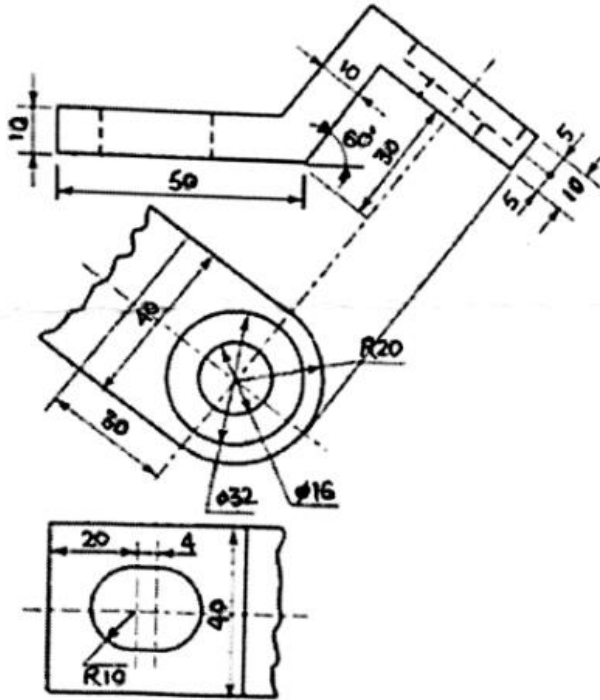

Fig.2
Q.3 Fig. 2 shows front view, incomplete top view and auxiliary view of an object. Redraw the front view and complete Top view showing all details.